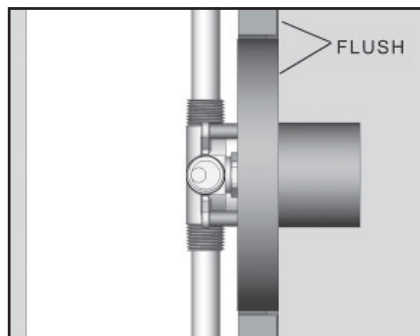

Figure 2
2. The depth of rough-in should account for thickness of wall materials to be used (Combined thickness of wall board and finished wall material) . Face of guard should be positioned to be flush with finished wall surface. (SEE FIGURE 2)